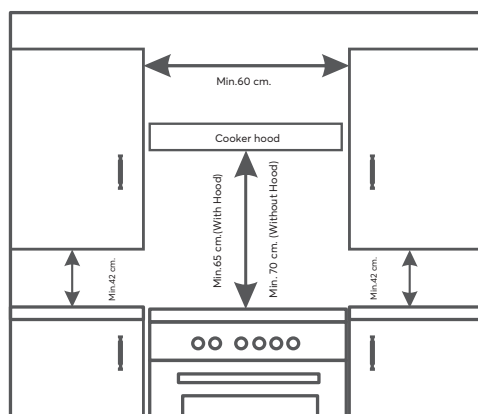

Figure 1
- d. Place the wall cabinets adjacent to the hood at a minimum height of 42cm from the hobs as indicated in figure 1.
- f. Should the cooker be installed beneath a wall cabinet, the latter should be situated at least 70cm away from the hobs as indicated in figure 1.
- g. The cut-out for the cooker cabinet should have the dimensions indicated in the figure 1.